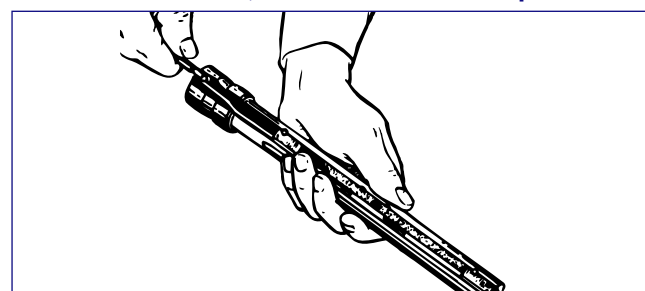

FIGURE 3-4, Mandrel Wedge
5. Pull back on mandrel wedge, using "V" notch in chuck wrench (*see Figure 3-4*).